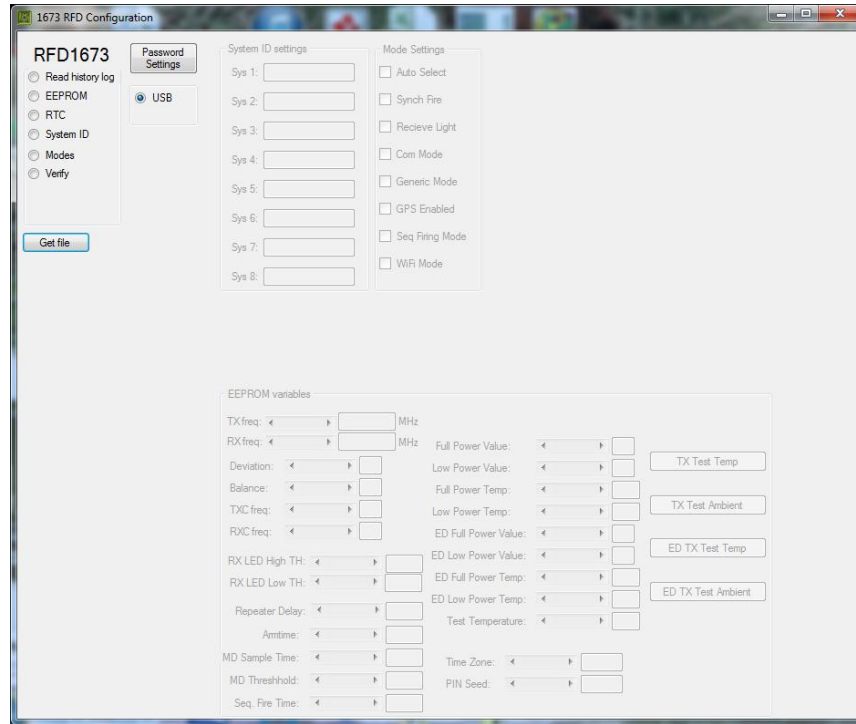

Figure 6-1 1673 RFD Configuration – Main Screen
6.2.2. Use the Windows™ Start Menu and browse to the folder '1673 RFD Configuration' and select the '1673 RFD Configuration' program. The program opens and displays the main screen shown in Figure 6-1.